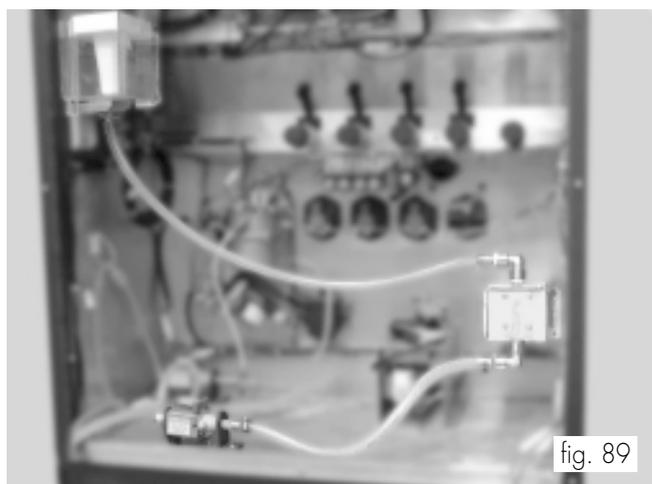

fig. 89
- The pipe connection logic is clearer in fig. 89, since some plates have been removed.